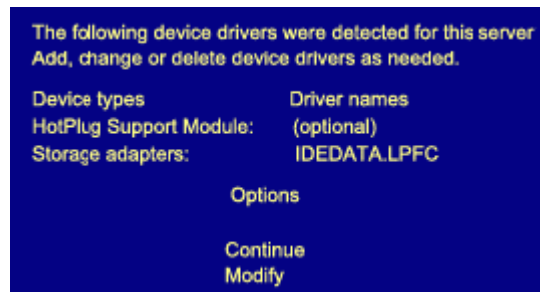

Figure 1: Detected Device Drivers
- a. If you are installing NW6.0 SP3 or NW6.5, the NetWare installation CD ships with an old version of the Emulex driver for NetWare. Remove this old driver before you install the latest version of the Emulex driver for NetWare. During installation, a screen similar to Figure 1 appears: